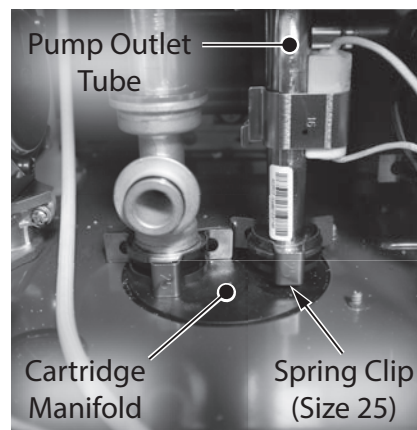

Figure 243 - Remove spring clip from pump outlet tube
- 15** Locate and remove the small spring clip (size 25) securing the pump outlet tube to cartridge manifold as show in Figure 243. Place spring clip aside in a safe place for reinstallation. Disconnect pump outlet tube from manifold.